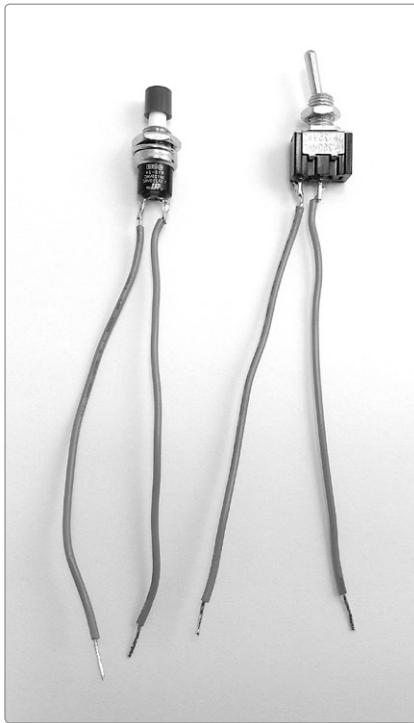

FIGURE 15-5: *The prepared trigger (left) and hold (right) switches*
Step 3 Now we'll start working on the output controls, which offer two options for playing notes: a pushbutton trigger for playing individual notes and a toggle hold switch that you can flip for continuous output. Cut four 4-inch insulated wires, and strip and tin the ends. Dig out your remaining SPST toggle switch and your single SPST push-button switch; solder one wire to each lug on each switch (see Figure 15-5).